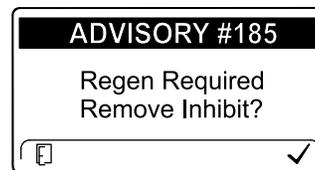

Figure 40
**Note:** If you set the InfoCenter to inhibit regeneration, the InfoCenter displays ADVISORY #185 (Figure 40) every 15 minutes while the engine requests a reset regeneration.